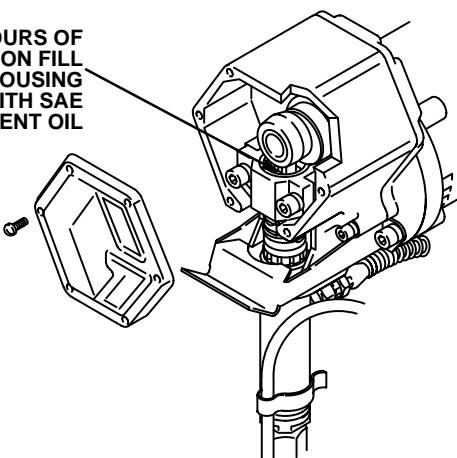

Fig 12-3
- Lubricate the bearing housing** after every 100 hours of operation. Remove the drive housing cover. Fill the bearing housing with SAE non-detergent oil. See Fig 12-3.